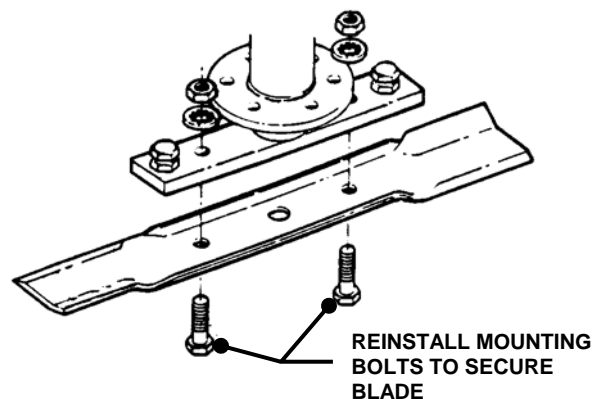

FIGURE 4.14
5. Remove blade(s). See Figure 4.14.
9. Reinstall blade. See Figure 4.14. Torque blade mounting bolts to recommended range of: 33" Deck - 30 to 40 ft. lbs.
1. Remove blade(s). See Figure 4.14. Replace blade(s) if it shows signs of excessive wear or damage. Use Part Number 1-9523 for replacement 33" blade.